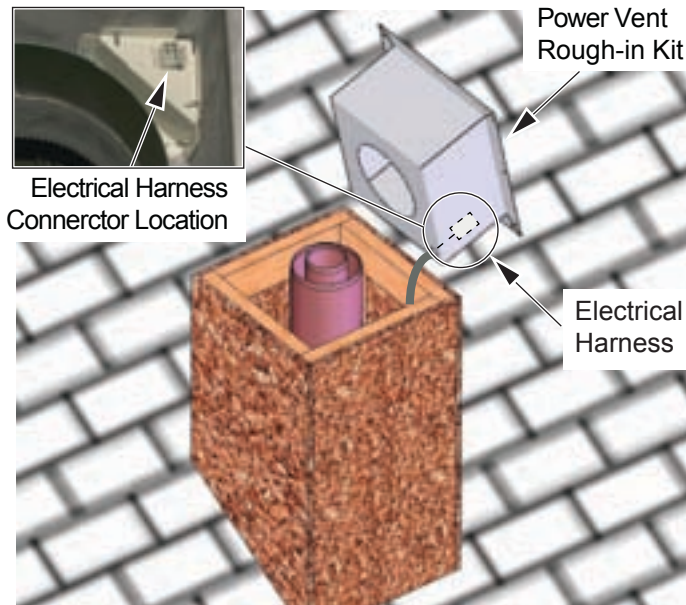

Figure 4b. Installation of Rough-in Kit
**Step 3.** Install the Power Vent Rough-in Kit. Pull wire harness through the supplied hole in the bottom corner of the rough-in box, and snap into the slot provided, (See figure 4b inset).